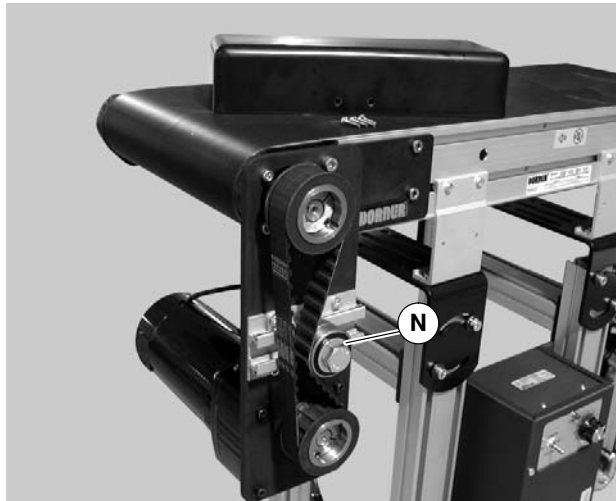

Figure 10
2. Loosen tensioner (N of Figure 10).